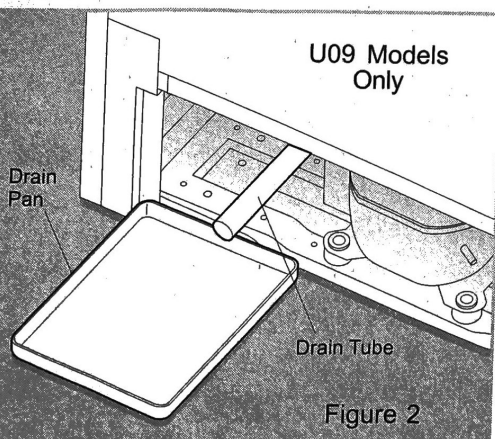

Figure 2
- **On chest models** with a defrost drain, place a shallow pan or the Divider/Drain Pan (some models) beneath the drain outlet (Figure 2). A $\frac{1}{2}$ inch garden hose adapter can be used to drain the freezer directly into a floor drain (Figure 3). If your model is not equipped with an adapter, one can be purchased at most hardware stores. Pull out the drain plug inside the freezer, and pull off the outside defrost drain plug (Figure 4). Defrost water will drain out. Check pan occasionally so water does not overflow. Replace the drain plugs when defrosting is completed.